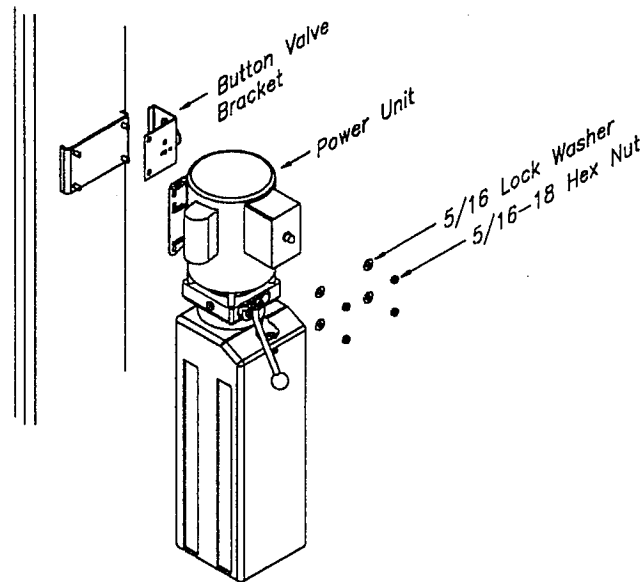

Fig 8
11. Install the power unit and button valve bracket assembly on the power column as seen in **Figure 8**.